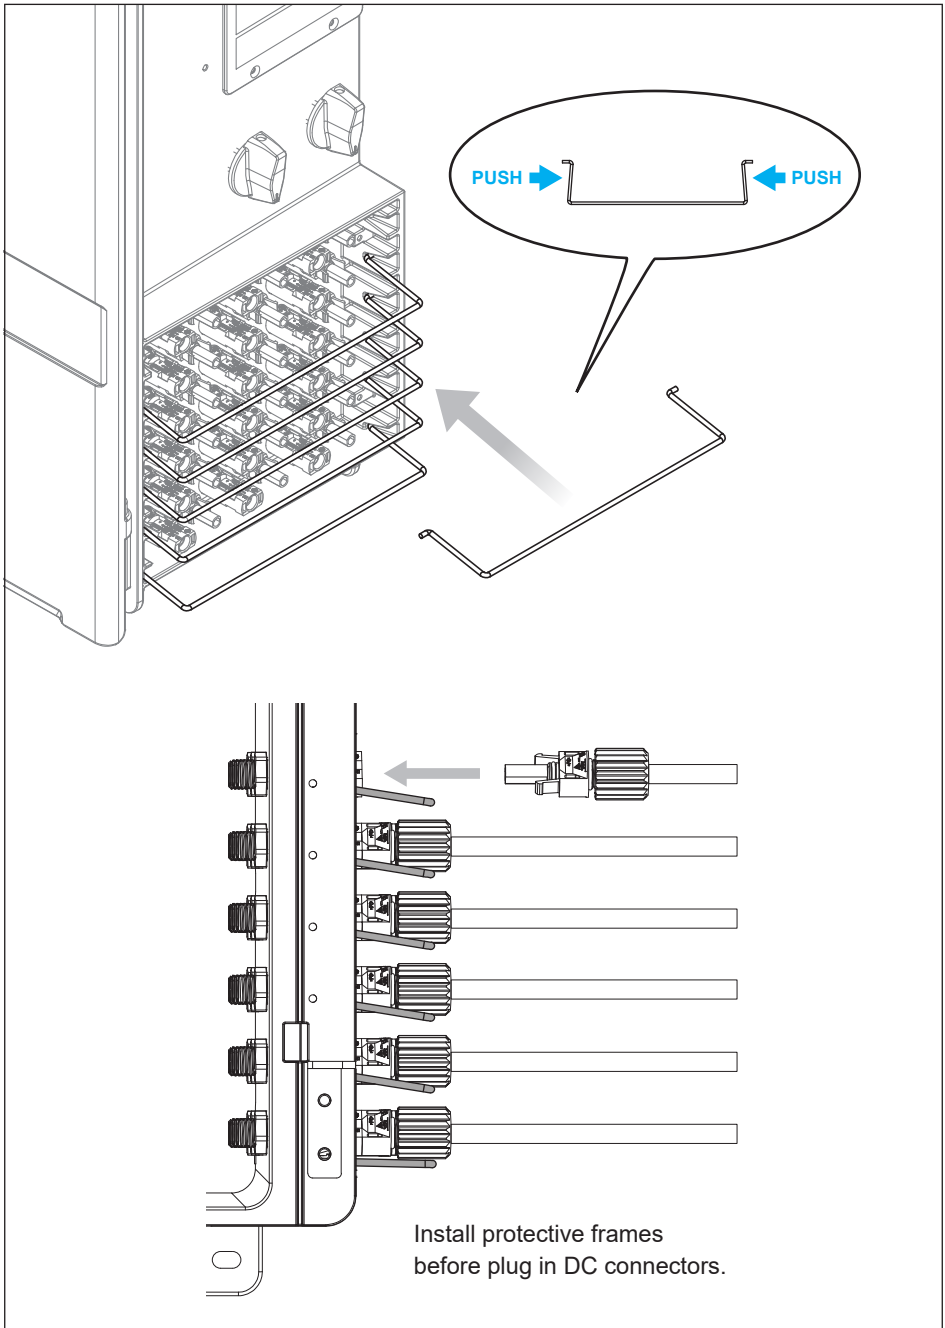

Figure 3-18: Installation methods for protective frame
- After DC Wiring installing, insert the protective frame for DC connector and the method is shown in **Figure 3-18**.